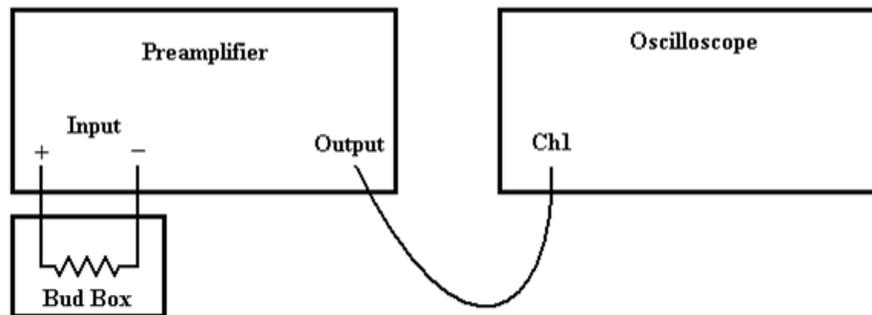

Figure 1. Basic schematic diagram for measuring Johnson noise.
You will need the following equipment: digital oscilloscope, low noise preamplifier, function generator, attenuator, bud box (metal box which shields external noise,) collection of resistors, and a thermometer. Figure 1 is a block diagram of the measurement system. Note: all wires are coaxial cables.
- 2) Finding the appropriate gain setting for the preamplifier. While it is advantageous to maximize the gain in order to get the best possible reading of the Johnson noise itself, you’ll also need to get accurate measurements of the effective gain in order to extract the Boltzmann constant. To do this, use setup 4b and apply the center frequency of the filter’s bandwidth. Adjust the attenuation on the input signal to the minimum necessary to prevent an overload in the preamplifier. Switch to setup 4a and observe the signal on the oscilloscope. If the observed sine wave is not easily discernable or is seriously distorted by noise, this gain setting will not provide usable data. Find the highest gain setting that provides a discernable and undistorted sine wave with setup 4a. Assemble the circuit in figure 1 using the largest resistor to be measured. Since Johnson noise is proportional to resistance, this will be the maximum noise you will measure. Make sure the gain setting you just selected does not overload the preamplifier. Remember, to get good data in this experiment you need to maximizing the amplification while not getting a distorted signal out of the amplifier. And of course, do not overloading the preamp input. Note, once the gain for a given bandwidth, has been determined do not change it.
- 2) Set up the measurement circuit shown in figure 1. Use the shortest cables possible to reduce noise. Use the same cables for all measurements. Set the preamp low-pass filter to 3 kHz, high-pass filter to 1 kHz and coupling to DC (Direct Coupling). Keep the same gain settings used in the Measuring Effective Gain section.
- 1) Revert to the equipment configuration shown in figure 1 but instead of the bud box use the resistor shielded with grounding braid. Measure the resistance of this special resistor with a multimeter.